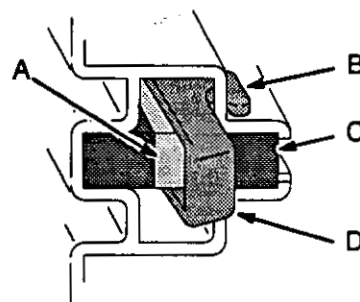

Fig. 38
2. Push in the spring clip to unhook it, and then pull it out. See Fig. 38.